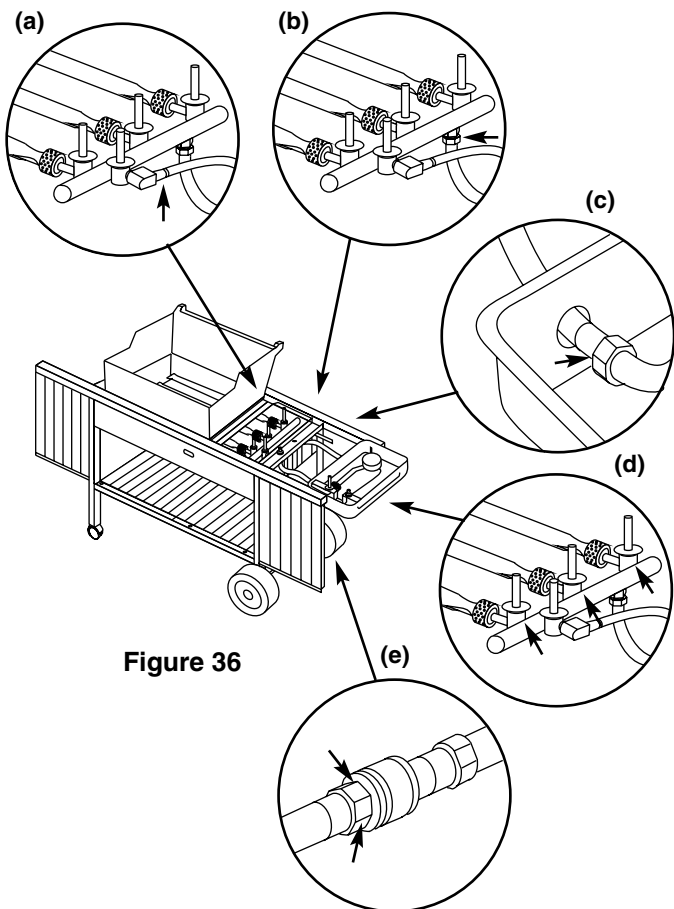

Figure 36
- a) Hose to manifold connection. Figure 36 (a).
- b) Manifold to side burner hose connection. Figure 36 (b).
- c) Side burner hose to side burner connection. Figure 36 (c).
- d) Valves to manifold connections. Figure 36 (d).
- e) Hose to quick disconnect connection. Figure 36 (e).